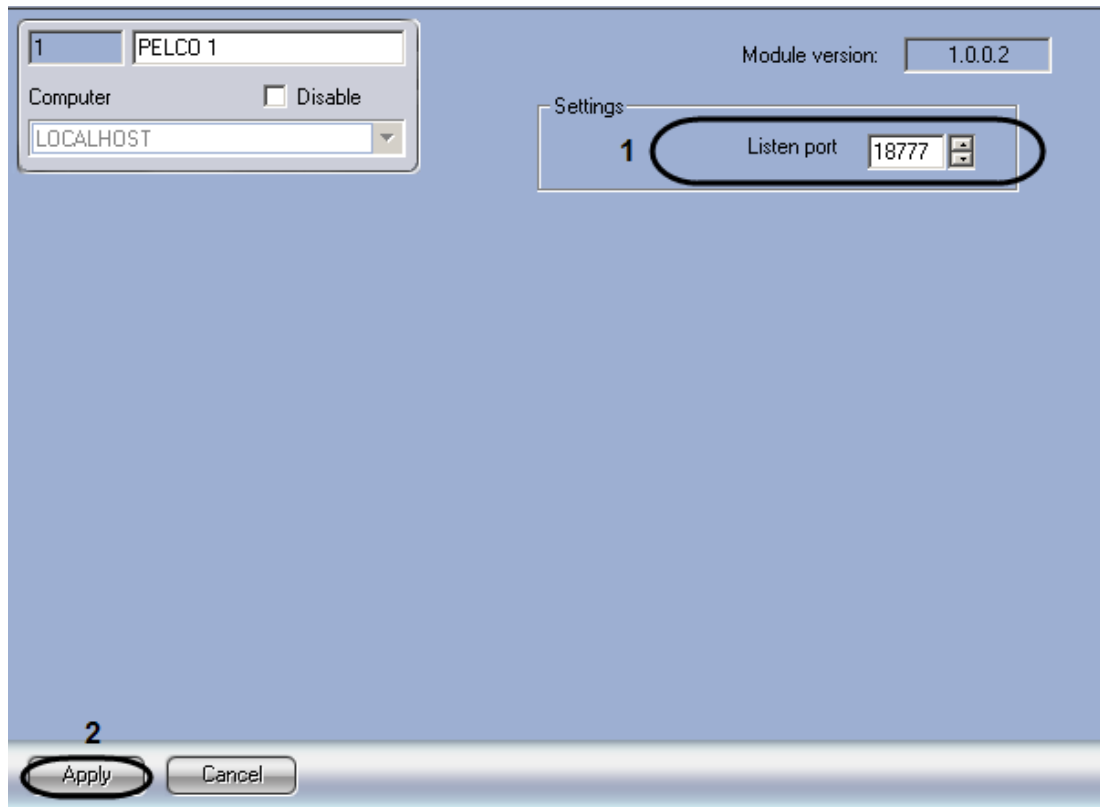

Fig. 3.2—2 Configuration the Pelco ACS connection
2. Enter the port number for message receiving from Pelco ACS in the **Listen port** (Fig. 3.2—2, 1).
3. Click the **Apply** button (Fig. 3.2—2, 2).